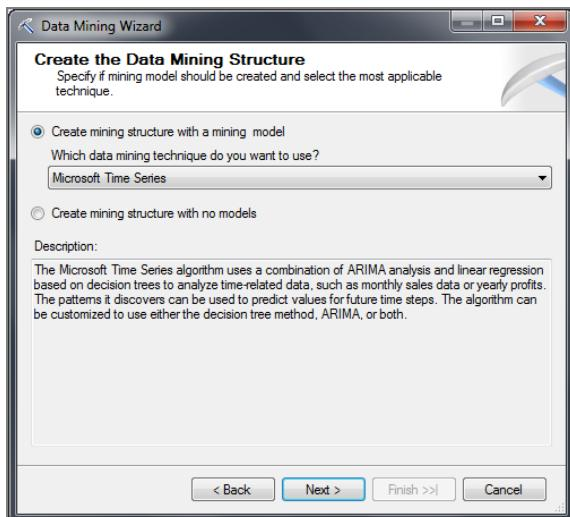

Figure 14-10
2. Select Microsoft Time Series as the data mining technique (shown in Figure 14-10).